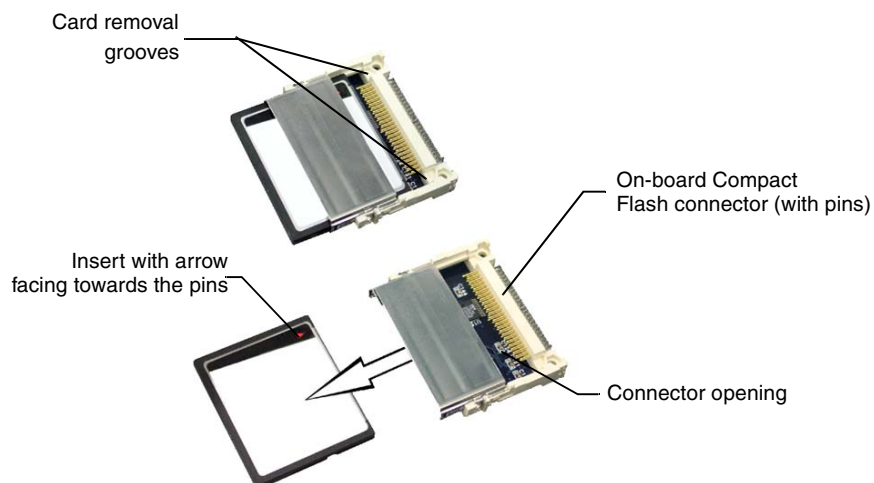

FIG. 21 Removing/installing a Compact Flash Memory card
2. Insert the tip of a grounded flat-head screwdriver into one of the card removal grooves (located on either side of the existing card), and gently pry the card out of the slot (FIG. 21). Repeat this process on the opposite card removal groove. This alternating action causes the card to "wobble" away from the on-board connector pins.